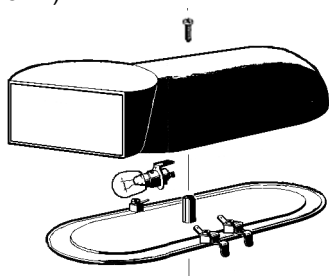

figure 17
**3** Replacement of lighted top cover bulb: remove the fixing screw placed in the upper part of the top cover, remove the lower part and replace the bulb (using a 24-28V 21W max bulb). Reassemble the top cover and replace the fixing screw.(see figure 17)